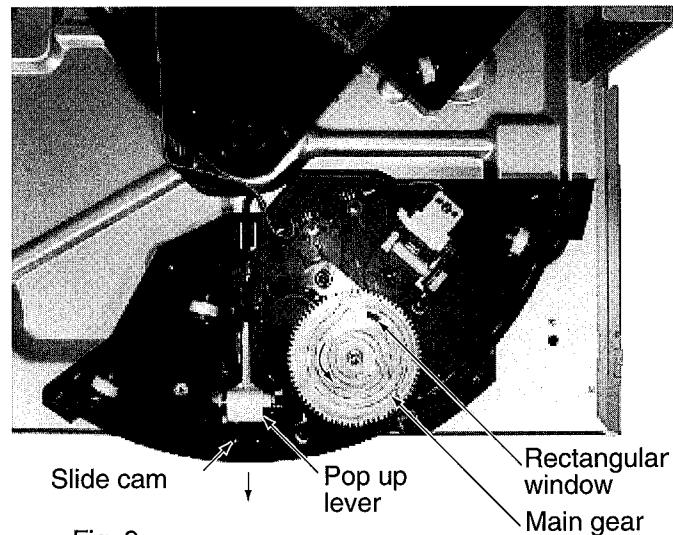

Fig. 9
- 2) Mount(by screws)the main gear surch that the rectangular window faces in the direction shown in figure 9.